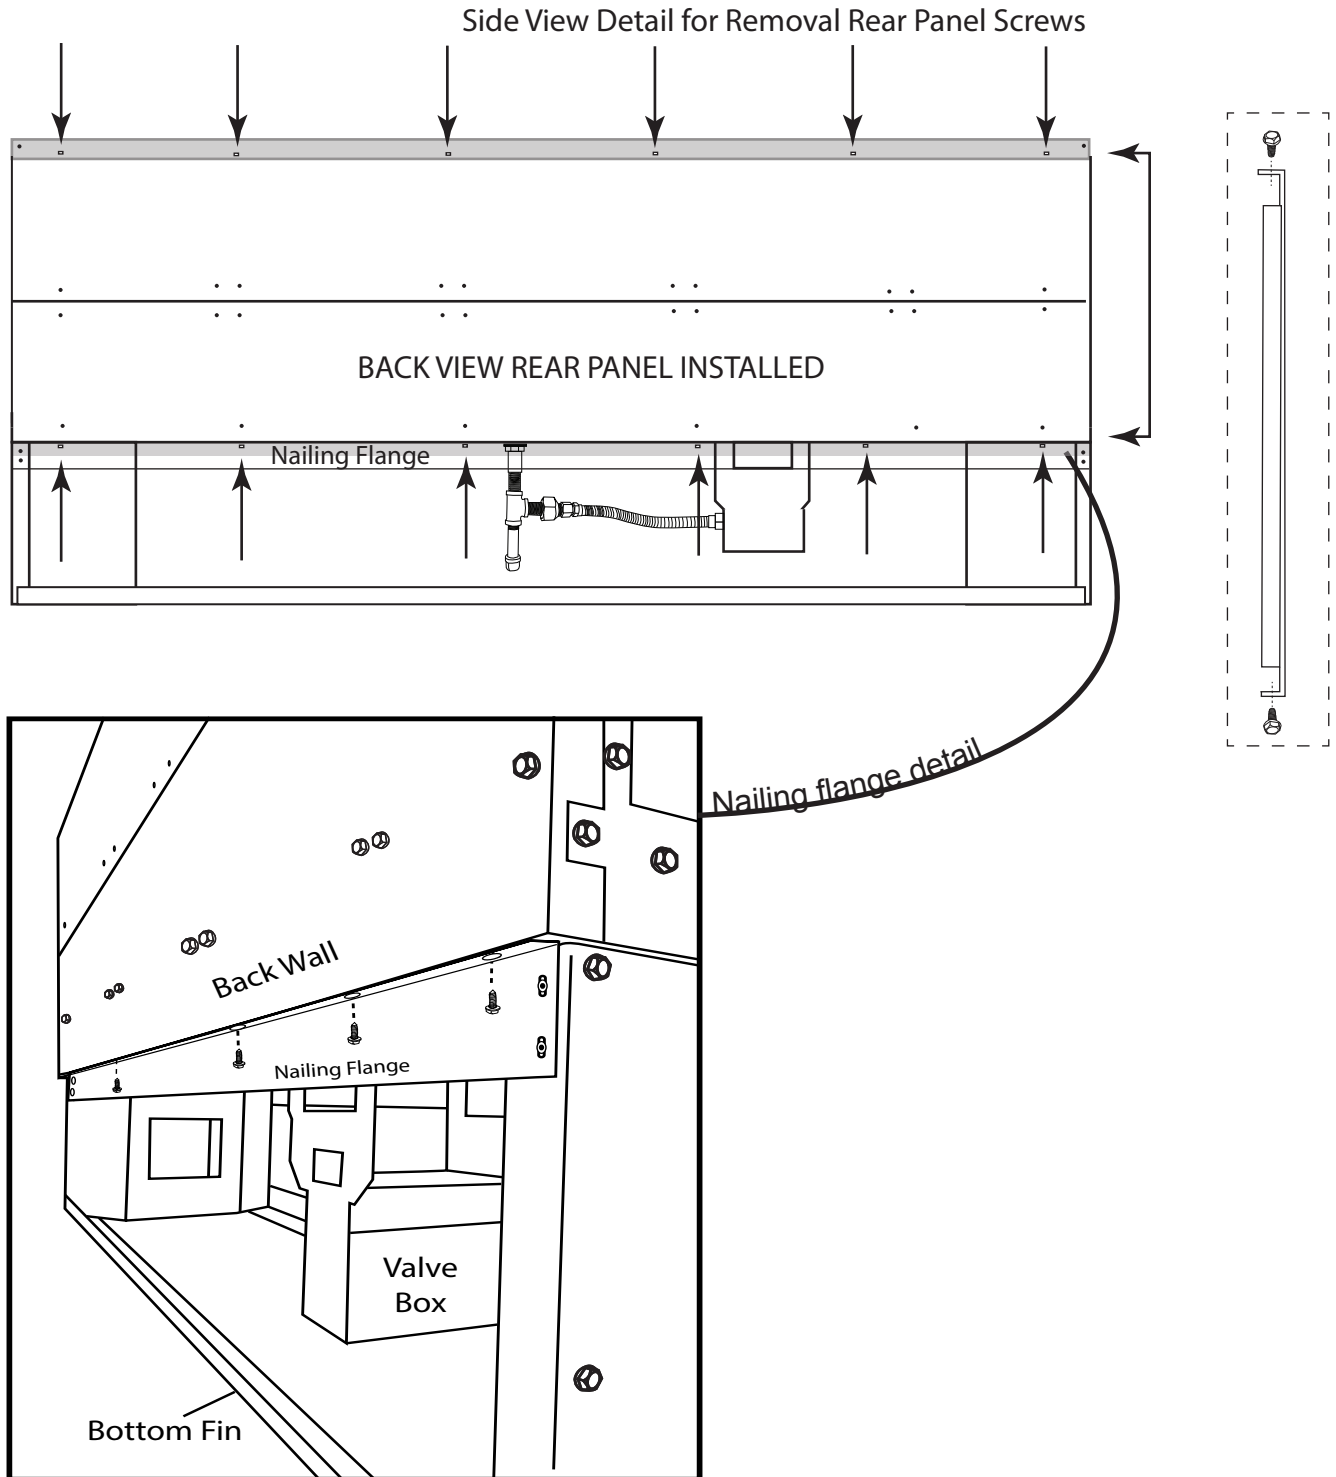

Fig. 2 Removing back wall to convert to see-through model.
Step 1: REMOVING BACK REAR PANEL: The outer perimeter area of the back wall has several 1/4" hex head screws that must be removed from top and bottom of fireplace (See the shaded area in Fig. 2). Only remove the top and bottom screws on the rear panel. The nailing flange will remain in place at the bottom however the nailing flange on top must be re-installed. The back wall panel will remain in one piece. **CAUTION:** Watch for sharp edges. Carefully remove the back wall. **Note:** The numbers of screws to remove will vary with each fireplace model. The back panel will not be used again. Discard back panel and replace the screws previously removed.